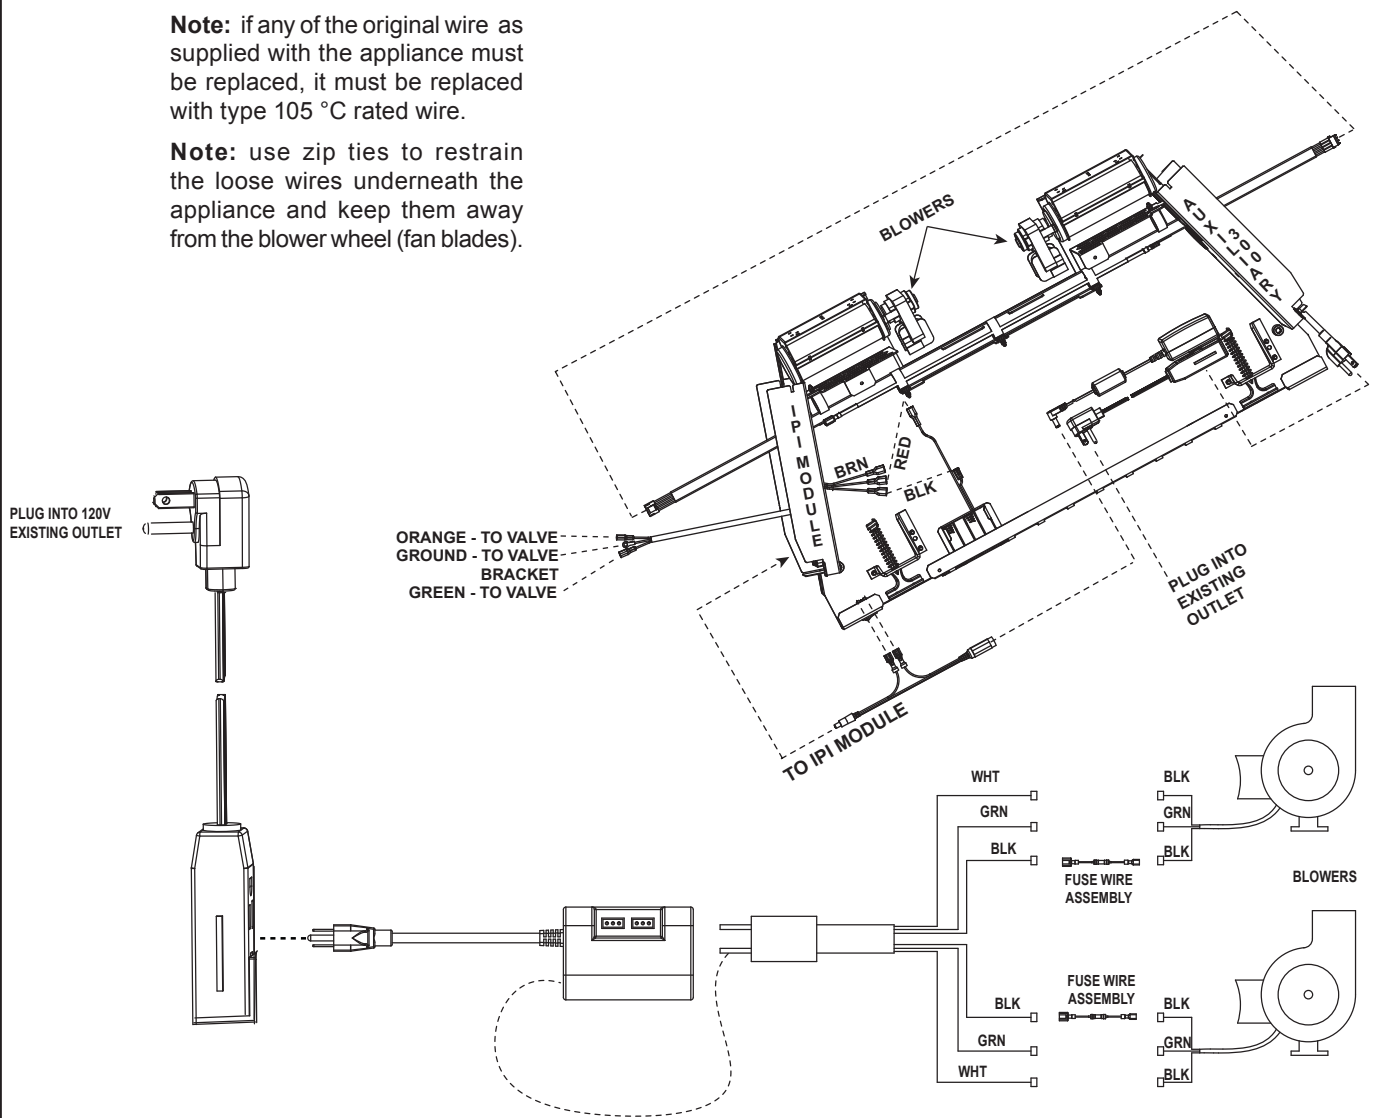

Figure 12. Fan Wiring Diagram - FireBrick Inserts
4. Connect white and green wires from blower wire assembly to each blower. See Figure 12. Connect the fuse wire assembly in series between black wires of blower wire assembly and each blower. See Figure 12.
6. Insert plug from blower cable assembly into AUX300 receptacle. See Figure 12.